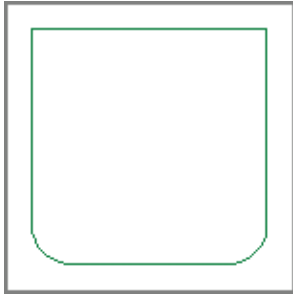

FIGURE 7.2 Using Fillet to round two corners
6. Press the spacebar to repeat the **FILLET** command. Click the bottom and right edges to create another arc. Figure 7.2 shows the result.